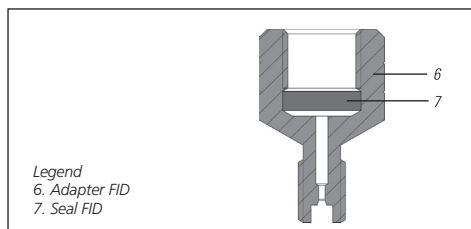

Figure 4. Image of the Detector showing SilTite™ FingerTite adapter assembly.
3. Locate the Adapter FID (6) and Seal (7) (the seal may be pre-assembled or has become loose. Confirm the seal is present and assemble as displayed in Figure 4.